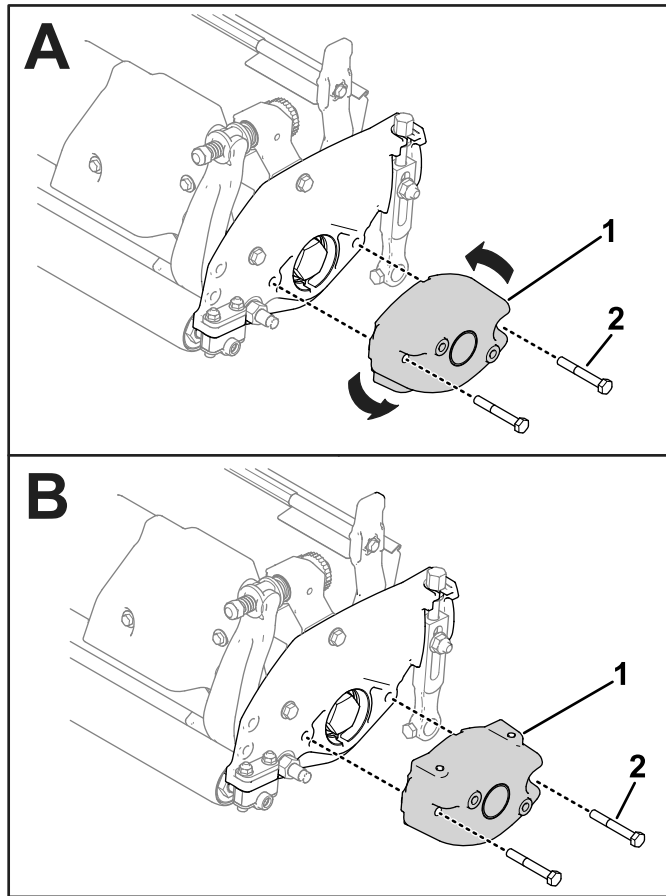

Figure 53
1. Remove the existing counterweight from the cutting unit and install the counterweight so that the threaded holes face upward (Figure 53).